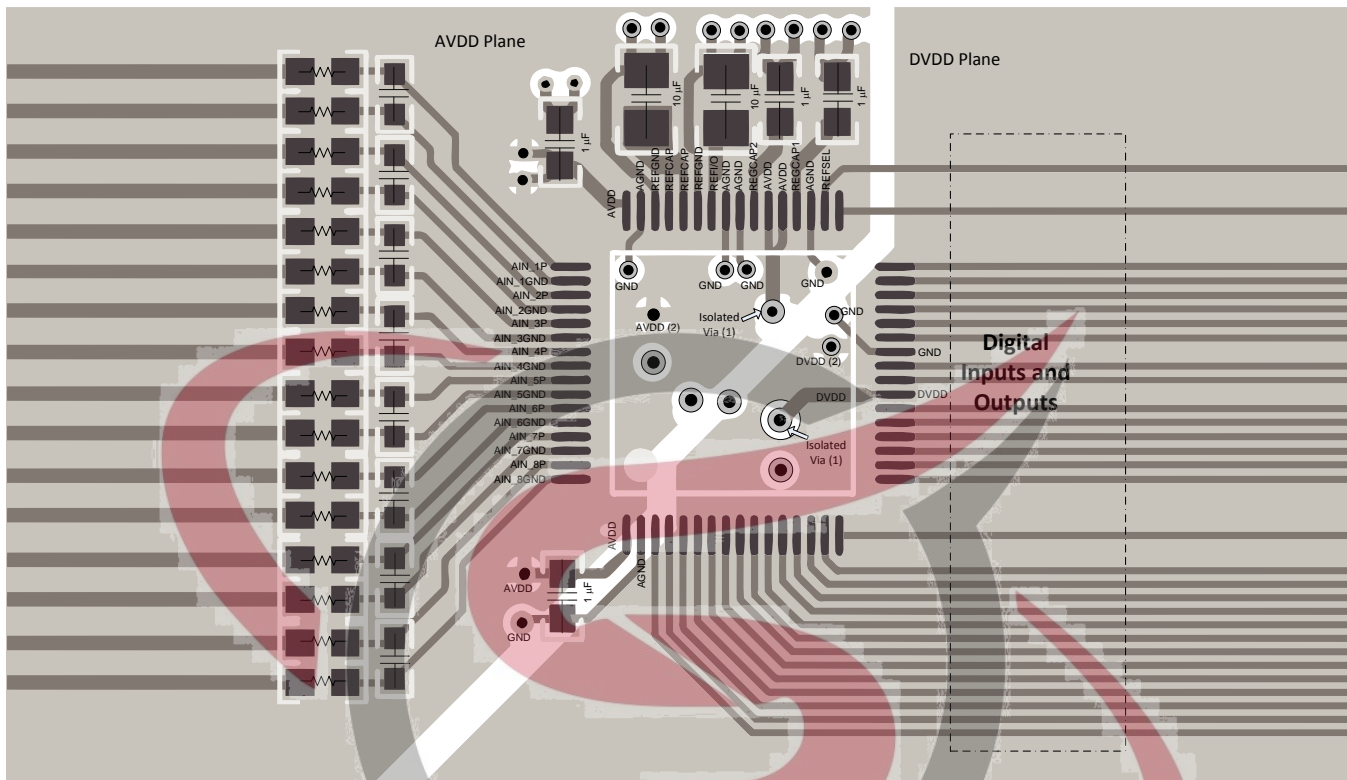
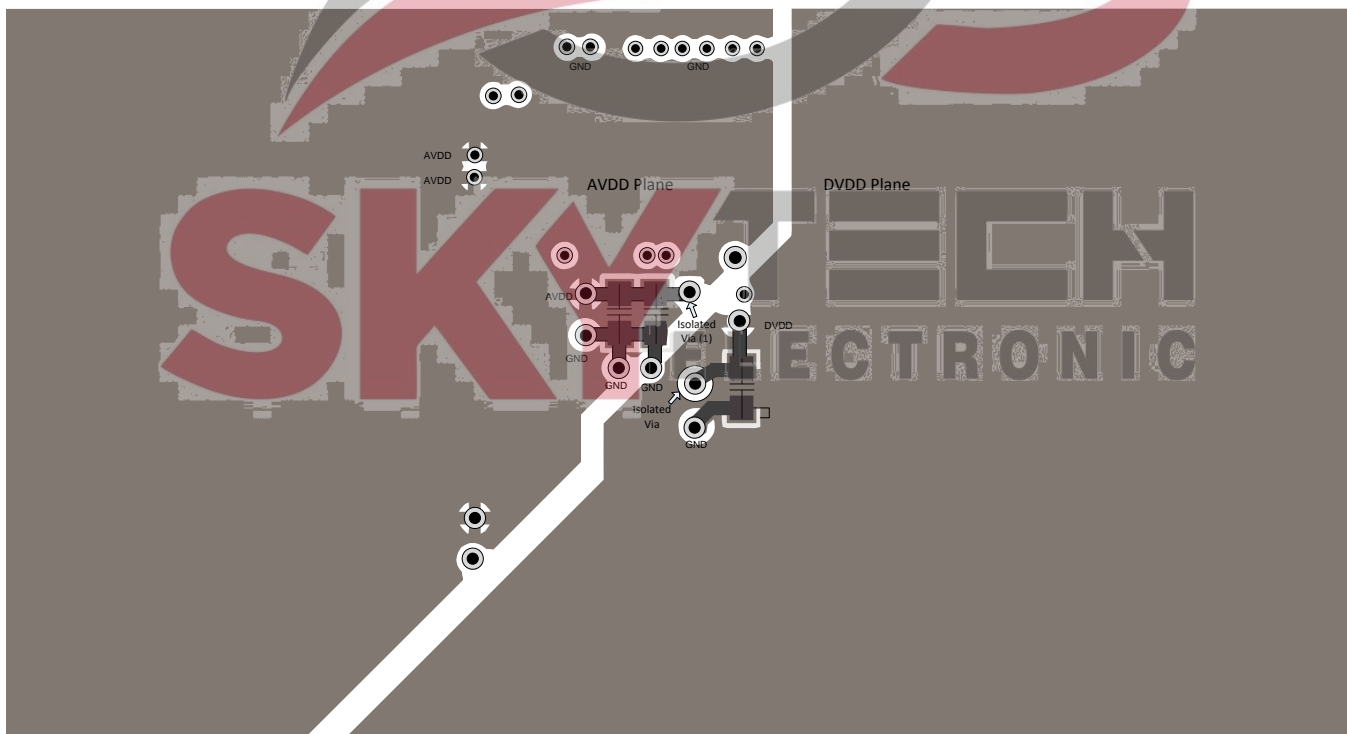

Figure 89. Top Layer Layout
Figure 90. Bottom Layer Layout
Figure 89 and Figure 90 illustrate a PCB layout example for the ADS8588S.
- Power sources to the ADS8588S must be clean and well-bypassed. As a result of dynamic currents during conversion, each AVDD must have a decoupling capacitor to keep the supply voltage stable. Use wide traces or a dedicated analog supply plane to minimize trace inductance and reduce glitches. Using a 1- $\mu$ F, X7R-grade, 0603-size ceramic capacitor is recommended in close proximity to each analog (AVDD) supply pins. Bypass capacitors for AVDD pins 1 and 48 are located on the top layer; see Figure 89. AVDD supply pins 37 and 38 are connected to bypass capacitors in the bottom layer using an isolated via (1); see Figure 90. A separate via (2) is used to connect the bypass capacitor to the AVDD plane.
- For decoupling the digital (DVDD) supply pin, a 1- $\mu$ F, X7R-grade, 0603-size ceramic capacitor is recommended. The DVDD bypass capacitor is located in the bottom layer; see Figure 90.
Figure 89 and Figure 90 illustrate a recommended layout for the ADS8588S along with proper decoupling and reference capacitor placement and connections.